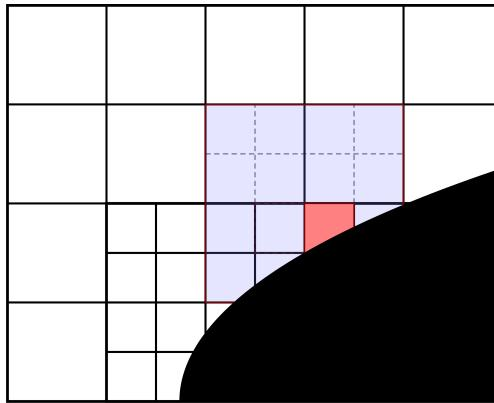

Fig. 2.6.3: Example of the region of a second order stencil for the Laplacian operator with second order gradient reconstruction on the embedded boundary.
Note that the gradient reconstruction can end up requiring more than one ghost cell layer near the embedded boundaries. For example, Fig. 2.6.3 shows a typical stencil region which is built when using second order gradient reconstruction on the EB. In this case the gradient reconstruction requires a stencil with a radius of 2, but as the cut-cell lies on the refinement boundary the stencil reaches into two layers of ghost cells. For the same reason, gradient reconstruction near the cut-cells might require interpolation of corner ghost cells on refinement boundaries.
1. Cut-cell stencils may have a large radius (see Fig. 2.6.3) and thus require more ghost cell layers.
Figure Fig. 2.6.5 shows a typical interpolation stencil for the stencil in Fig. 2.6.3. Here, the open circle indicates the ghost cell to be interpolated, and we interpolate the solution in this cell using neighboring grid cells (closed circles). For this particular case there are 10 nearby grid cells available, which is sufficient for second order interpolation (which requires at least 6 cells in 2D).